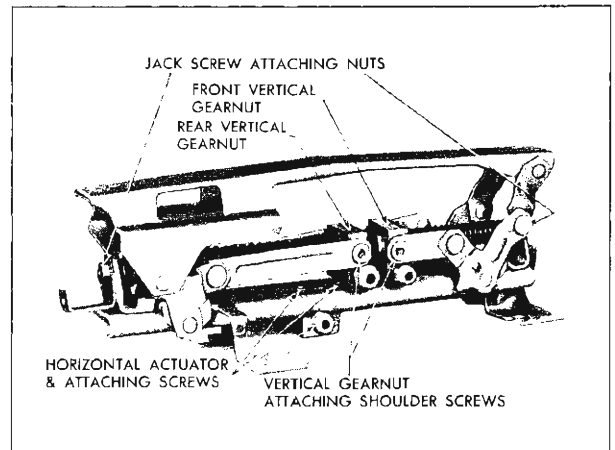

Fig. 8-8 Six-Way Seat Adjuster
3. Using clutch-type screwdriver or other suitable tool, remove shoulder screws securing linkage to vertical gear nuts (Fig. 8-8).